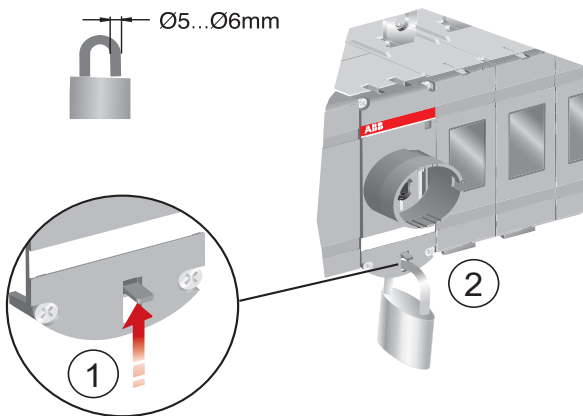

Figure 3.9 Electrical Locking
2. Place the padlock as shown in Figure 3.9.